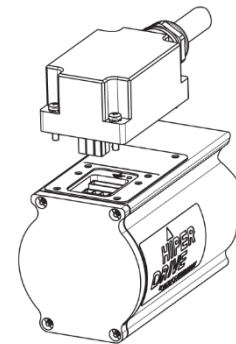

Figure 6: using the cable adapter
- Remove protective foil from the drive-end plug opening. Ensure that no foreign bodies enter the plug opening. When using the cable adapter for long connecting cables (AD-H-xxMRS with $xx > 10$; Fig. 6):